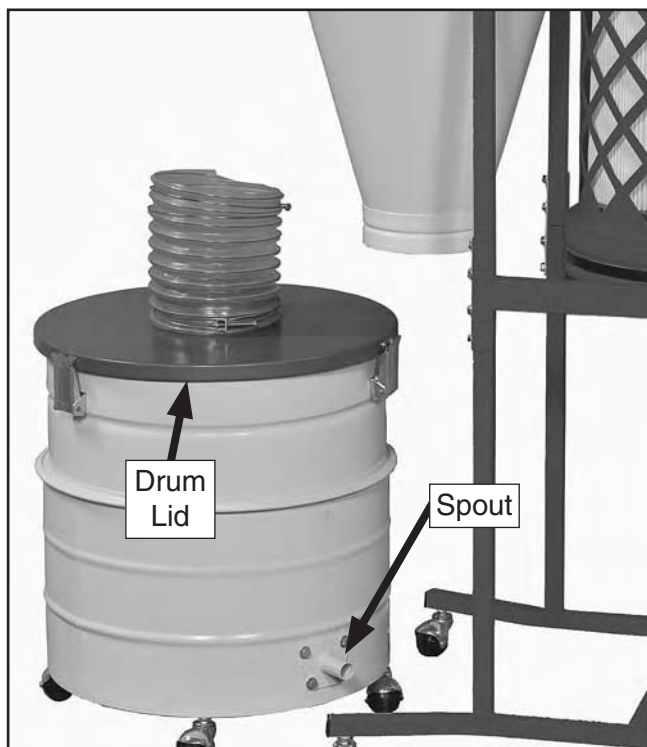

Figure 26. Collection drum positioning.
17. Place the drum lid onto the drum and tighten the latches, then roll the drum under the cyclone port so the drum spout faces the dust collector, as shown in **Figure 26**.